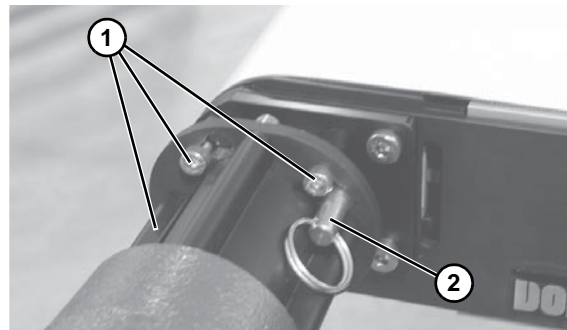

Figure 13
2. Loosen the four (4) coupling lock screws (Figure 13, item 1), remove anti rotation pin (Figure 13, item 2). Rotate and remove gearmotor assembly.